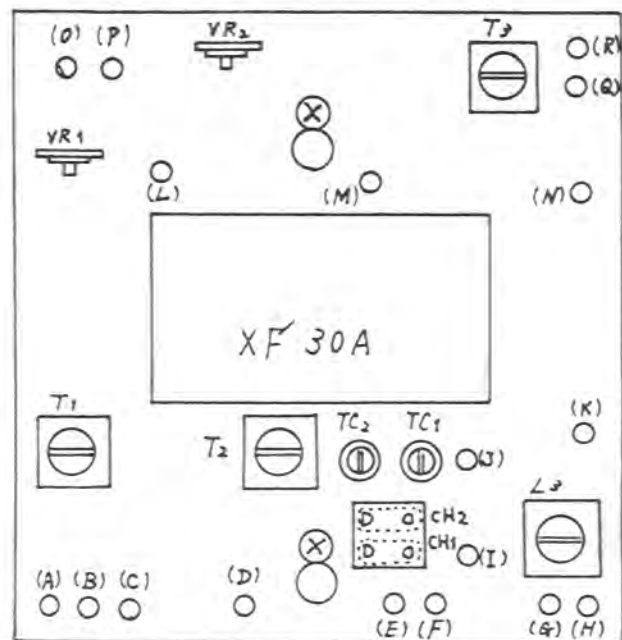

Fig. 6-11
Table 1 shows resistance value when measured at various test points shown in Fig. 6-11. (Minus lead of the circuit tester connected to ground).
2. Connect RF probe of VTVM to check point (B) in Fig.6-11. Apply 1 kHz signal at 10 mv to the microphone input. Adjust MIC GAIN control for 30 mv VTVM reading.
3. Set VR1 to the center of its range. Connect the RF probe of your VTVM to check point (Q). Peak T1 and T3 for maximum indication of VTVM. Set VR1 for 30 mv VTVM reading.